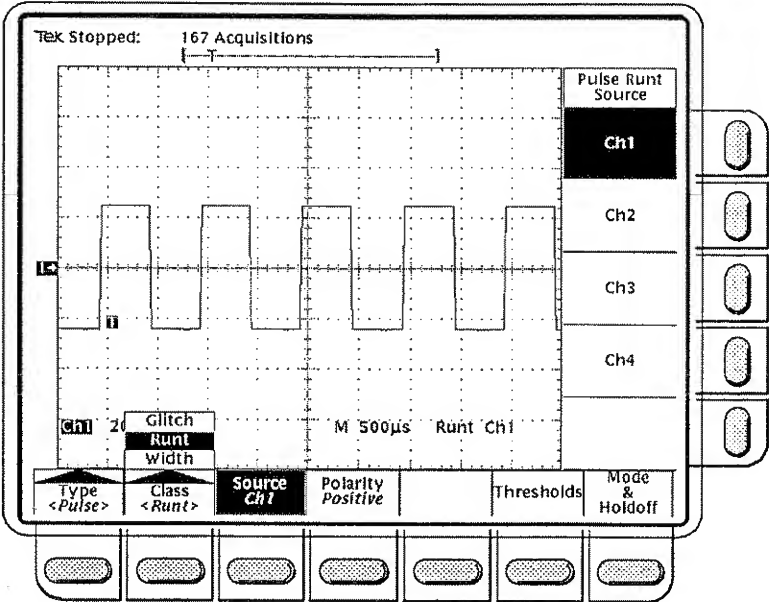

Figure 3-57: Main Trigger Menu – Runt Class
- ☐ **Step 1:** Press the **TRIGGER MENU** button to call up the Main Trigger menu (Figure 3-57).